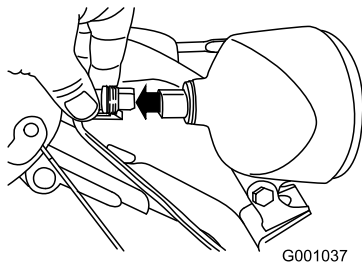

Figure 63
1. Remove the wire connector from the back of the headlight (Figure 63).